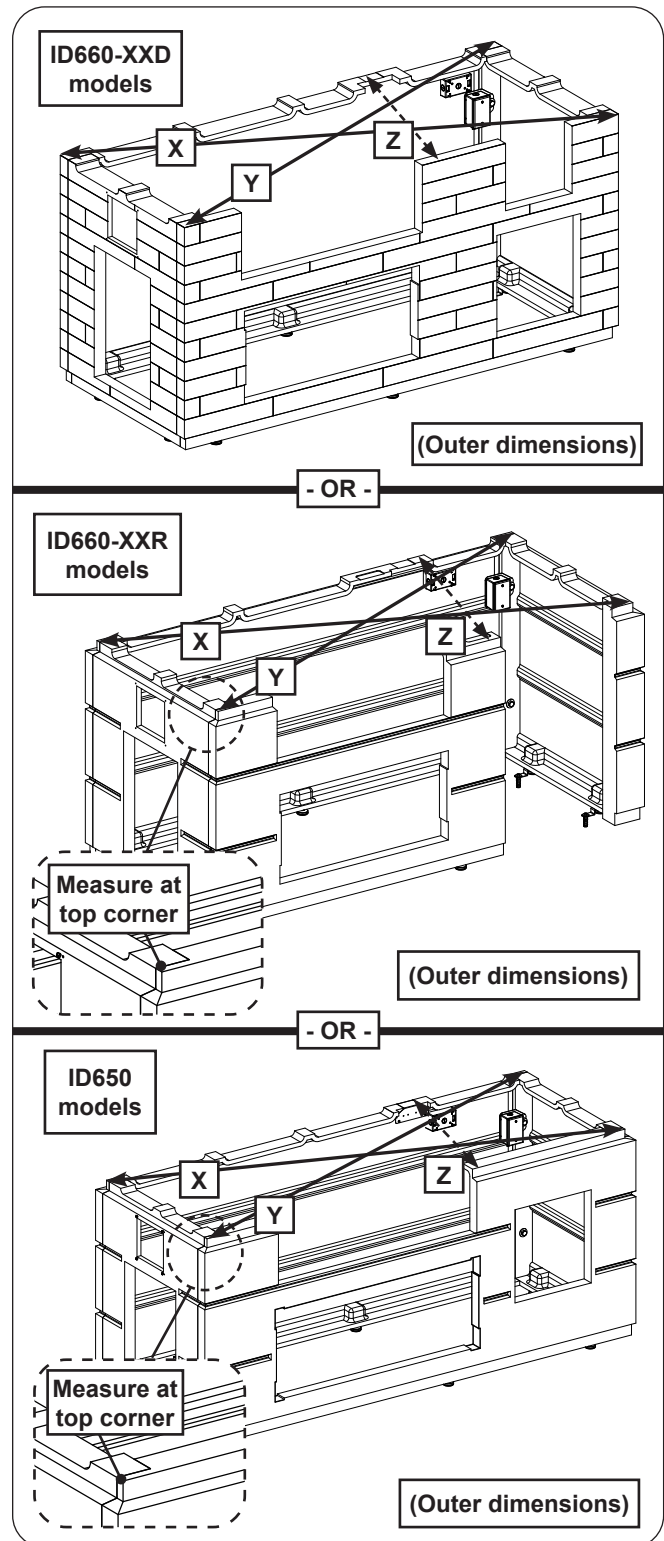

Fig. 10-1 Square unit (then tighten all bolts)
- a. Measure for the X outer dimension, see Fig. 10-1. It should be approximately:
- b. Measure the Y outer dimension, see Fig. 10-1. Carefully adjust the walls as needed to ensure the X & Y dimensions are equal. (The final dimension may slightly vary from that mentioned in step a.)
- c. Measure for the Z outer dimension, see Fig. 10-1. It should be approximately: